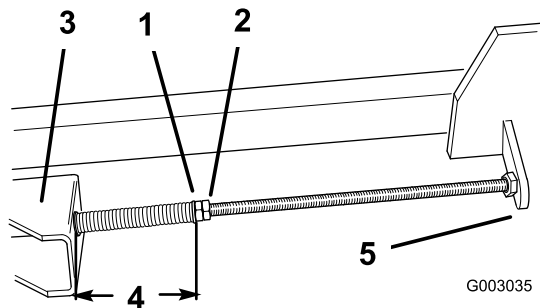

Figure 43
5. Loosen the jam nuts on the adjusting shafts to relieve the tension on the drive belt, then remove the worn drive belt from the pulleys (Figure 43).
8. Tighten the front jam nut on each adjusting shaft until the springs are completely compressed, approximately 4-3/4 inch (12 cm) measured between the washer and the bushing, then back the front jam nuts off one turn (Figure 43).
9. Tighten the rear jam nuts (Figure 43).